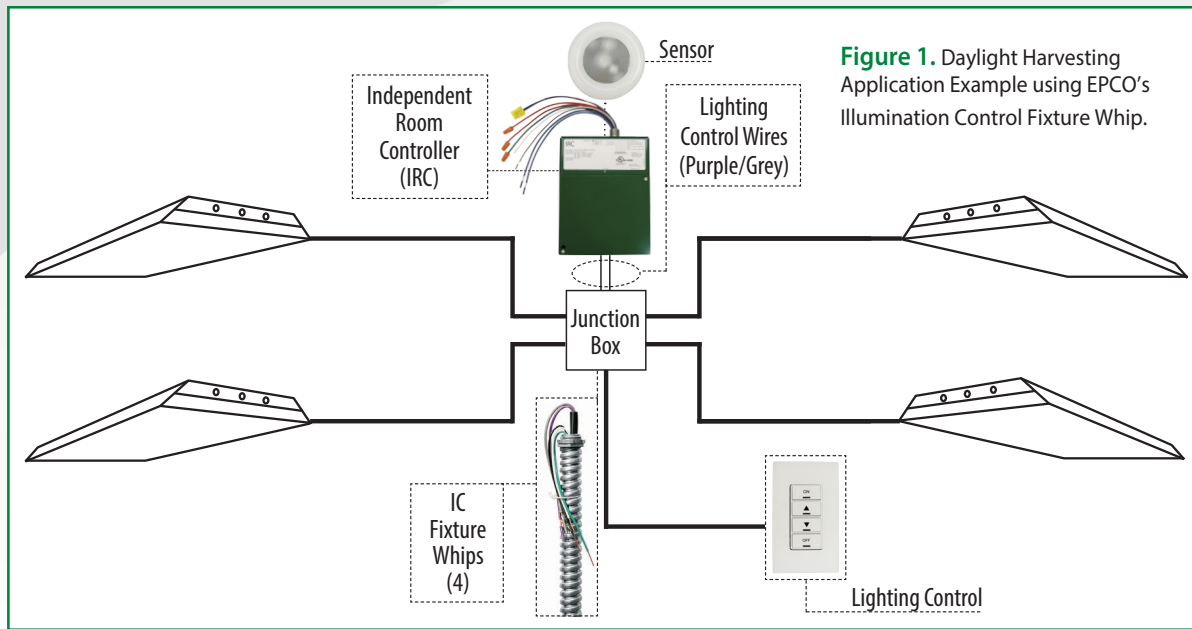

Figure 1. Daylight Harvesting Application Example using EPCO's Illumination Control Fixture Whip.
- On the Luminaire side, the power conductors are wired to the Black and White conductors from the LED Driver or Dimming Ballast, to the Black and White Conductors within the ICFW. See Figure 1. The “green” conductor within the Fixture Whip may get “Spliced” to the Ballast/Luminaire or simply directly to the luminaire.